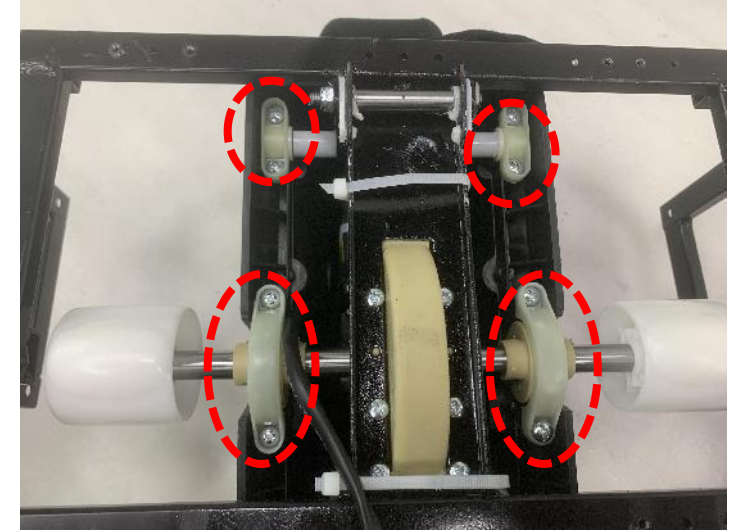

Figure 3
3. Remove the 8 screws of the leg kneading seat and separate the leg kneading seat to remove the kneading assembly (Figure 3)
4.13. Removal of kneading assembly and kneading motor (5)